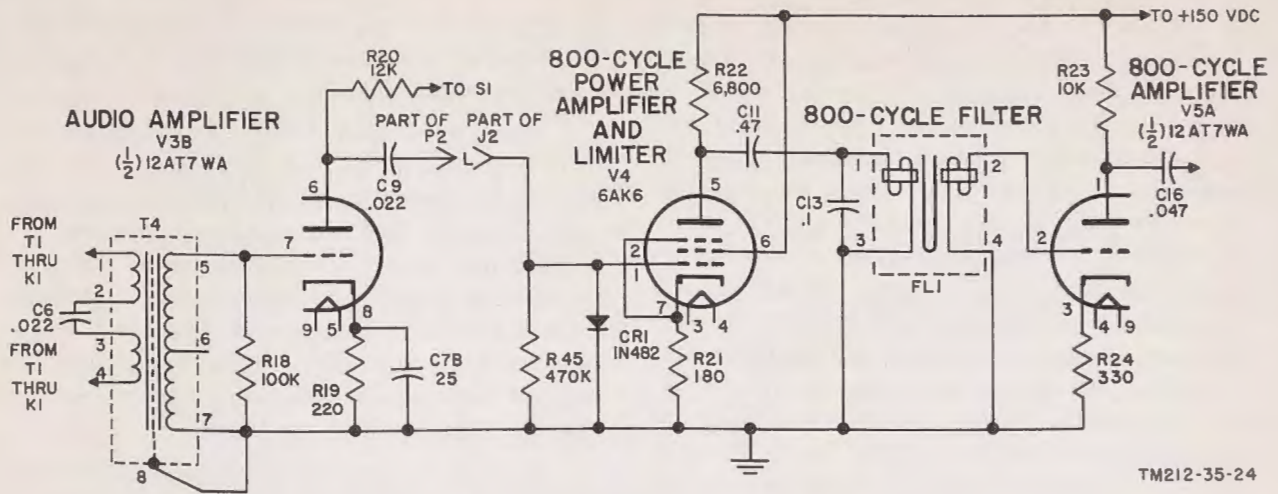
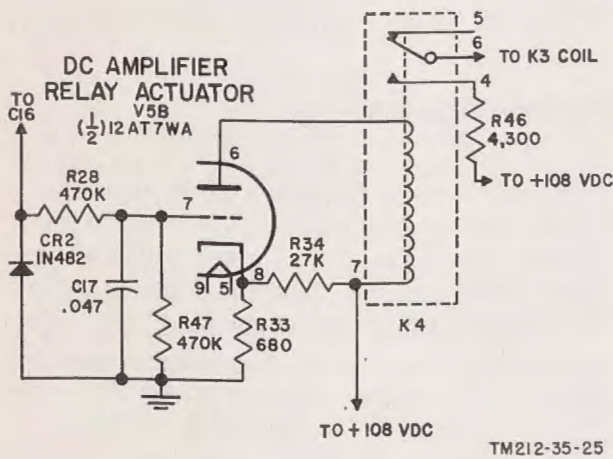

Figure 24. Amplifiers V3B, V4, and V5A, 800-cps.
Figure 25. Dc amplifier, relay actuator V5B.
a. *800-cps Amplifier Detector* (fig. 24). The receiver applies an 800-cps signal from the remote radio set through the hybrid stage (par. 33) and signal transfer relay K1 (contacts 13-7 and 14-9) to the 80-cps amplifier detector. This signal is fed into the grid of audio amplifier tube V3B through transformer T4, which is an impedance-bridging transformer across the 600-ohm telephone line. This signal is amplified and fed to the control grid of tube V4 through coupling capacitor C9. The positive portion of the signal is limited by the clipping action of diode CR1, thus tending to partially limit the signal to the control grid of tube V4. Consequently, there is no change in plate current or voltage drop across the plate load resistor of tube V4 during the positive portion of the input signal. The negative portion of the signal voltage applied to the control grid of tube V4 is not affected by diode CR1; consequently, this negative voltage decreases the voltage drop across the plate load resistor of tube V4 and results in an increase in voltage at the plate of the tube. When a very large ac input voltage is applied to the control grid of tube V4, the positive portion of the cycle is limited as before due to the clipping action of diode CR1. However, during the negative portion of the large ac input signal, tube V4 is driven toward cutoff; consequently, the maximum plate current and plate voltage change is reached. This limits the drive voltage to the input of tuning fork filter FL1.
c. Dc Amplifier, Relay Actuator (fig. 25). The 800-cycle signal from V5A is rectified by diode CR2, which is connected as a half-wave rectifier. The resultant positive pulses are smoothed out by a resistance-capacity filter circuit composed of resistor R28, capacitor C17, and load resistor R47. Resistor R28 serves as a ripple attenuator. The output of this filter circuit is a positive dc voltage which is applied directly to the grid of dc amplifier tube V5B. Fixed cathode bias is developed for this dc amplifier by a voltage divider from B+ to ground composed of resistors R33 and R34. When the positive voltage from the preceding filter is applied to the grid of tube V5B, the tube conducts, causing dc to flow through the coil of relay K4 to energize this relay. Contacts 4-6 of relay K4 are closed by this action, thus applying +108 volts dc control voltage to ringing transfer relay coil K3, terminal 10.
f. Ringing Voltage. This generator supplies a 20-cps ringing voltage through ringing transfer relay K3 (fig. 25) contacts 3-11 and 6-13, directly to the switchboard.
a. Ring-in (800-cps) From Remote Set. The 800-cps ringing signal appears in the grid circuit of hybrid V1. Hybrid V1 will pass the 800-cps signal in the same manner as voice frequencies (*b* below). The 800-cps signal will not ring into the switchboard, which is sensitive to 20 cps only. To convert the 800-cps signal to 20 cps, the 800-cps signal is applied to the primary of T4 (fig. 24) and then passed through stages consisting of V3B, V4, FL1, V5A, V5B, and K4 (fig. 25). A detailed analysis of how these stages convert the 800-cps ringing signal to a 20-cps ringing signal is covered in paragraph 30.